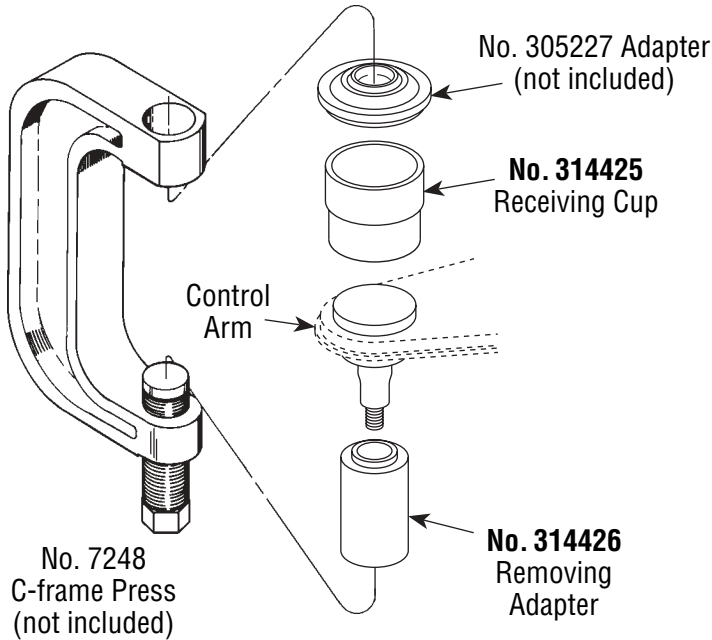

Figure 1
1. Assemble the ball joint press over the control arm as shown in Figure 1.